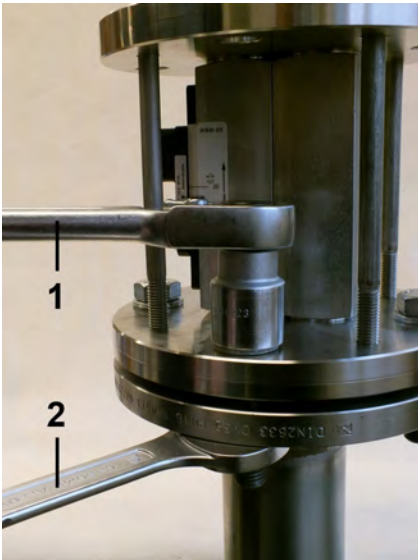

Fig. 13: Tighten bolt connection
4. ➤ Tighten the bolts evenly and crosswise using a socket wrench (Fig. 13/1) until the connection is tight. Hold the nuts in place with a spanner wrench.(Fig. 13/2).